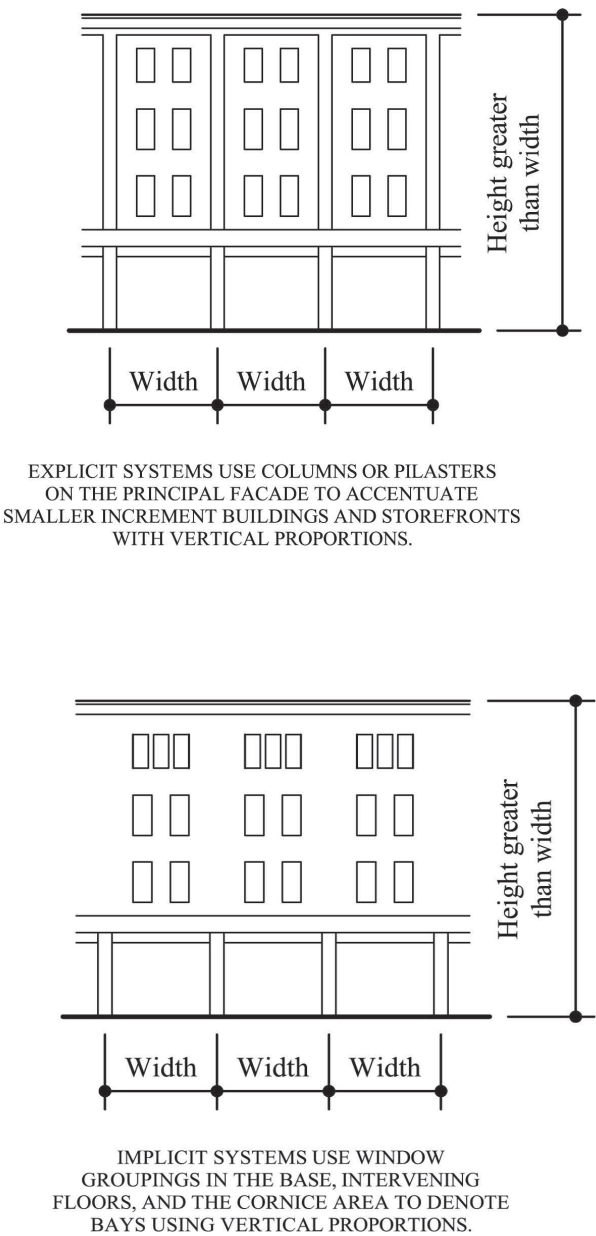

Figure 1
- » Commercial structures exceeding 60 feet in any horizontal dimension shall set up an implicit or explicit system of bays. Implicit systems use window groupings in the base, intervening floors and the cornice area to denote bays. Explicit systems use columns or pilasters on the principal facade to accentuate smaller building increments and/or individual storefronts. Implicit systems use material changes horizontally and the base of the building or storefront to accentuate smaller building increments. See Figure 1.